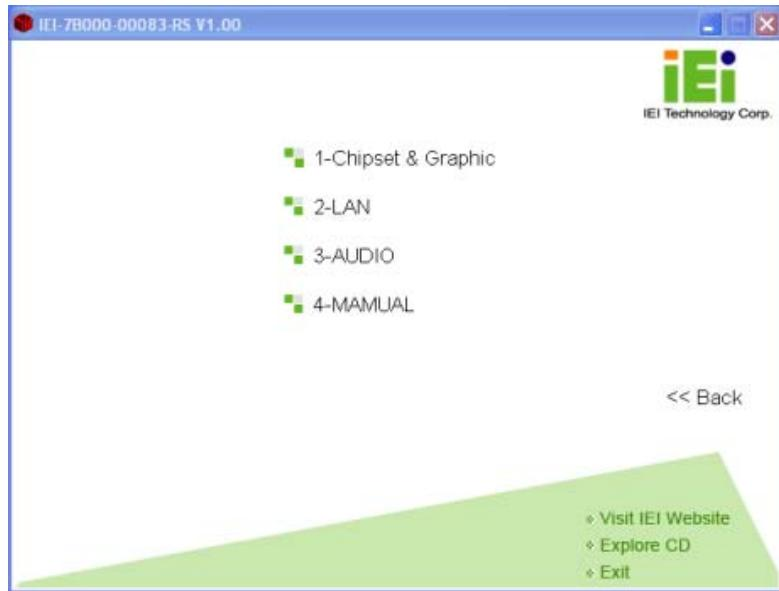

Figure 7-2: Available Drivers
Step 4: A new screen with a list of available drivers appears (**Figure 7-2**).
Step 5: Select the driver to install from the list in **Figure 7-2**. Detailed driver installation instructions follow below.